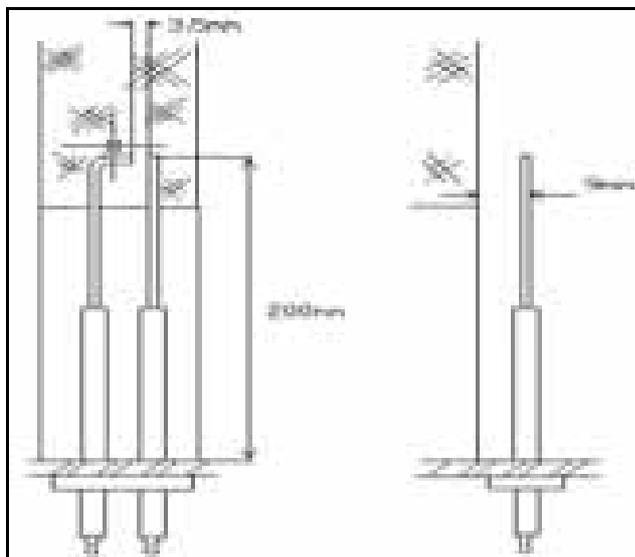

Figure 11.2 - Spark Gap and Electrode Positions
- a. Check that ignition electrode and rectification probe are correctly positioned. See Fig. 11.2 below;
d. Examine the condition of the electrodes and check that they are clean, undamaged, and not loose. If necessary, remove, clean using a very fine emery paper and then refit. For the correct spark gap and position of the electrodes, refer to Fig. 11.2 In this manual.